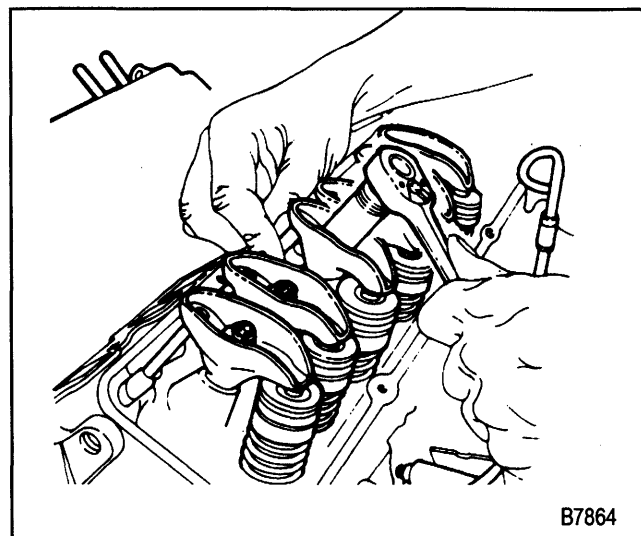

Figure 8—Adjusting the Valves
🔧 Adjust (Figure 8)
4. Back out the adjusting nut until lash is felt at the pushrod then turn in the adjusting nut until all lash is removed. This can be determined by rotating the pushrod while turning the adjusting nut (figure 8). When the play has been removed, turn the adjusting nut in 1 3/4 additional turns.